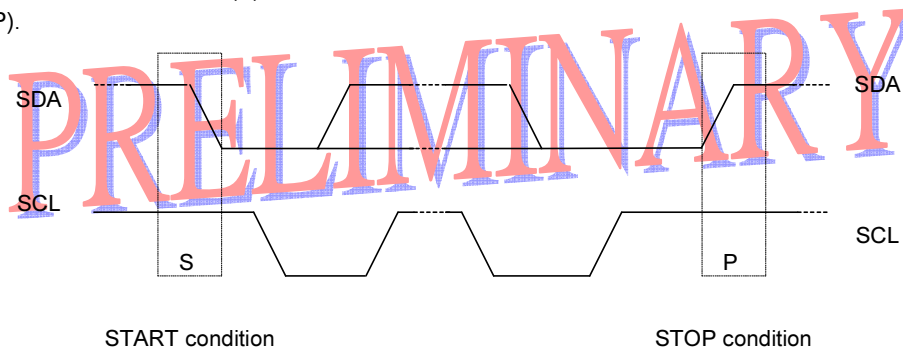

Figure.7 Start and Stop conditions
The SH1111 supports both read and write access. The R/\bar{W} bit is part of the slave address. Before any data is transmitted on the I²C-bus, the device that should respond is addressed first. Two 7-bit slave addresses (0111100 and 0111101) are reserved for the SH1111. The least significant bit of the slave address is set by connecting the input SA0 to either logic 0 (GND) or 1 (VDD1). The I²C-bus protocol is illustrated in Fig.9. The sequence is initiated with a START condition (S) from the I²C-bus master that is followed by the slave address. All slaves with the corresponding address acknowledge in parallel, all the others will ignore the I²C-bus transfer. After acknowledgement, one or more command words follow which define the status of the addressed slaves. A command word consists of a control byte, which defines C_0 and D/\bar{C} (note1), plus a data byte (see Fig.7). The last control byte is tagged with a cleared most significant bit, the continuation bit C_0 . After a control byte with a cleared C_0 -bit, only data bytes will follow. The state of the D/\bar{C} -bit defines whether the data-byte is interpreted as a command or as RAM-data. The control and data bytes are also acknowledged by all addressed slaves on the bus. After the last control byte, depending on the D/\bar{C} bit setting, either a series of display data bytes or command data bytes may follow. If the D/\bar{C} bit was set to '1', these display bytes are stored in the display RAM at the address specified by the data pointer. The data pointer is automatically updated and the data is directed to the intended SH1111 device. If the D/\bar{C} bit of the last control byte was set to '0', these command bytes will be decoded and the setting of the device will be changed according to the received commands. The acknowledgement after each byte is made only by the addressed slave. At the end of the transmission the I²C-bus master issues a stop condition (P). If the R/\bar{W} bit is set to one in the slave-address, the chip will output data immediately after the slave-address according to the D/\bar{C} bit, which was sent during the last write access. If no acknowledge is generated by the master after a byte, the driver stops transferring data to the master.